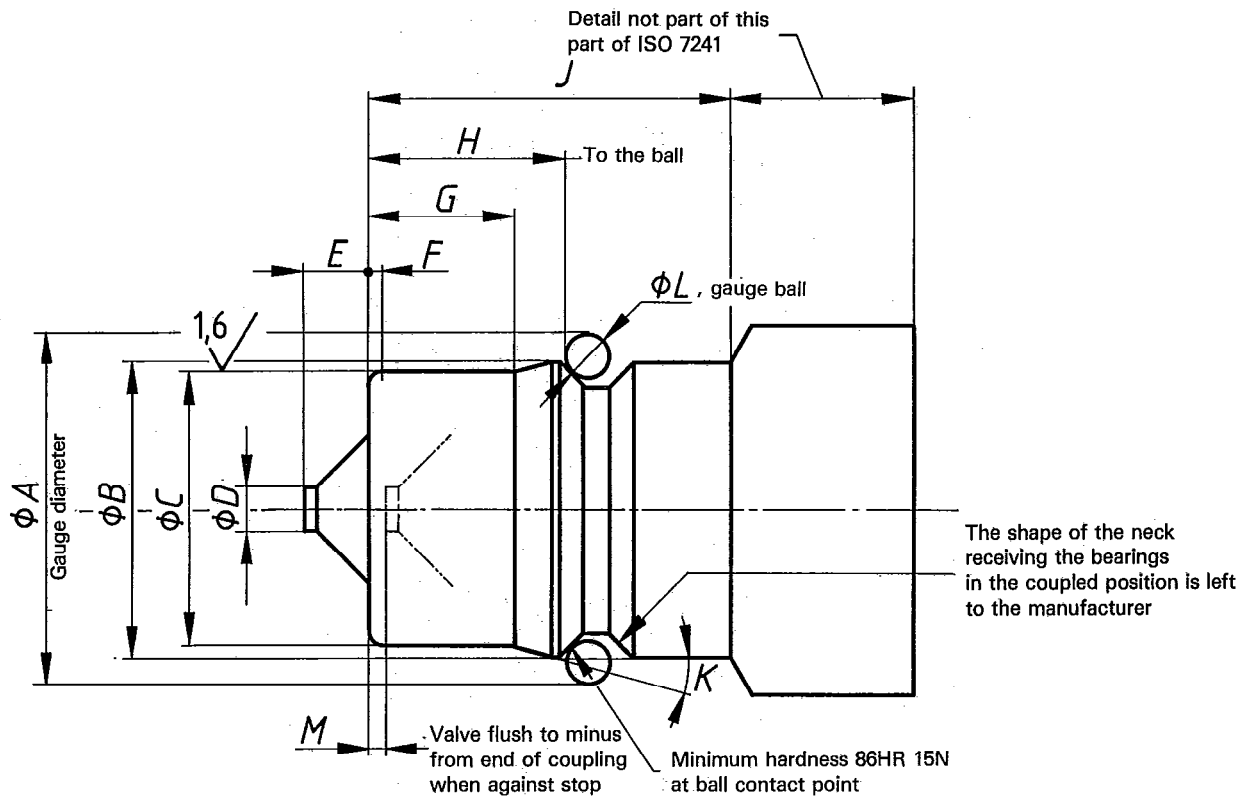

Figure 2 — Dimensional requirements, series "B" — Sizes 5 to 25
4.2 Series "B" dimensional requirements are shown in figures 2 and 3, and given in tables 2 and 3.